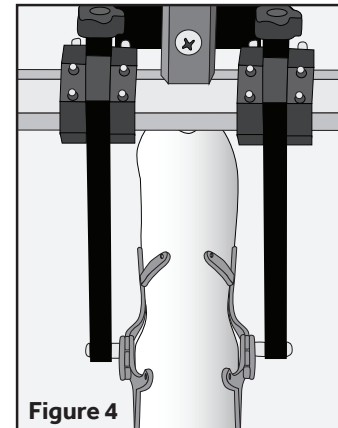

Figure 4
2. Contour distal "Y" stirrups to positive model. See Figure 4